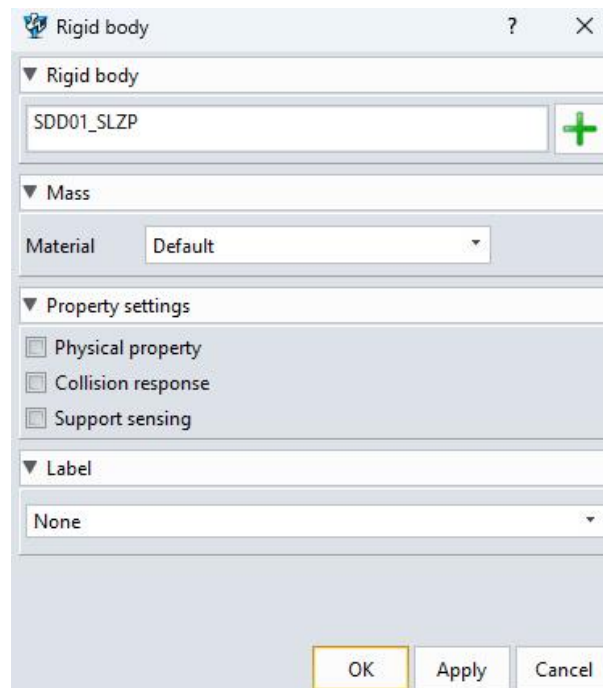

Figure 13-10: Rigid body message
- Specify their masses, material assignments, and property settings.(Figure 13-10)